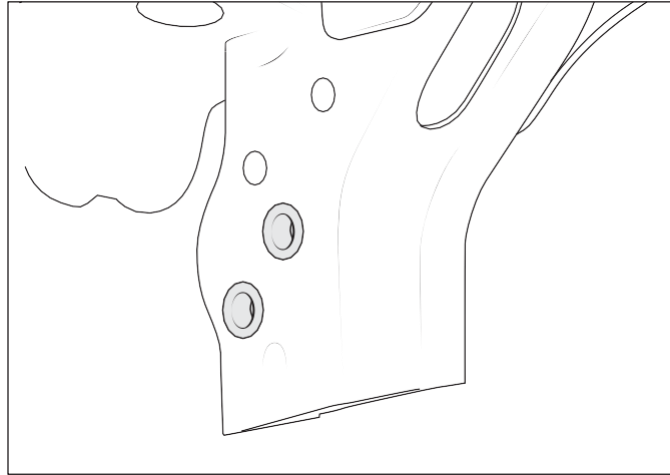

Figure 8
1. Install M10 riv-nuts using provided tool into the two hex shaped holes on the inboard side of each compatibility beam (fig. 8). To use rivnut tool, run provided bolt through the washer and coupler, then thread on rivnut until snug. Flanged end of rivnut should sit against the coupler. Place rivnut into desired hole, hold coupler stationary with a wrench, and tighten the bolt to 31 ft-lb. Remove the bolt and coupler to make sure the rivnut has full compressed. NOTE: Depending on factory bumper configuration, some vehicles may already have riv-nuts in these locations.
Install M10 riv-nuts using provided tool into the two hex shaped holes on the inboard side of each compatibility beam (see fig. 8). To use riv-nut tool, run provided bolt through the washer and coupler, then thread on riv-nut until snug. Flanged end of riv-nut should sit against the coupler. Place riv-nut into desired hole, hold coupler stationary with a wrench, and tighten the bolt to 31 ft-lb. Remove the bolt and coupler to make sure the riv-nut has full compressed.